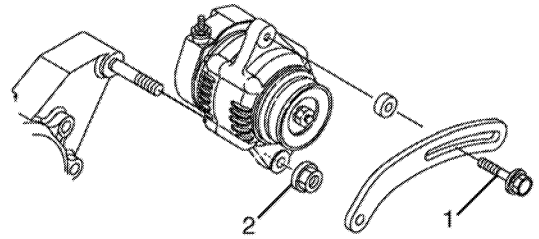

Figure 404
1. Position the alternator on the gear case. Loosely reinstall the nut (2, Figure 404) on the gear case stud and the V-belt adjuster bolt (1, Figure 404).